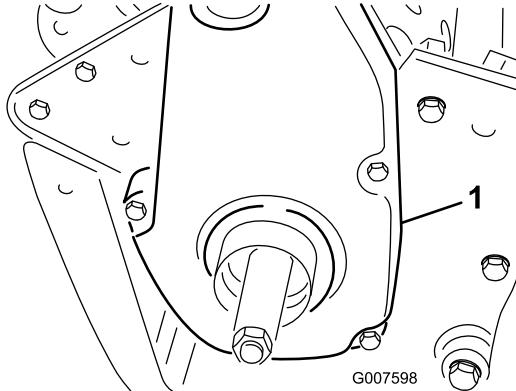

Figure 40
1. Remove the belt cover mounting fasteners and the belt cover to expose the belt (Figure 40).